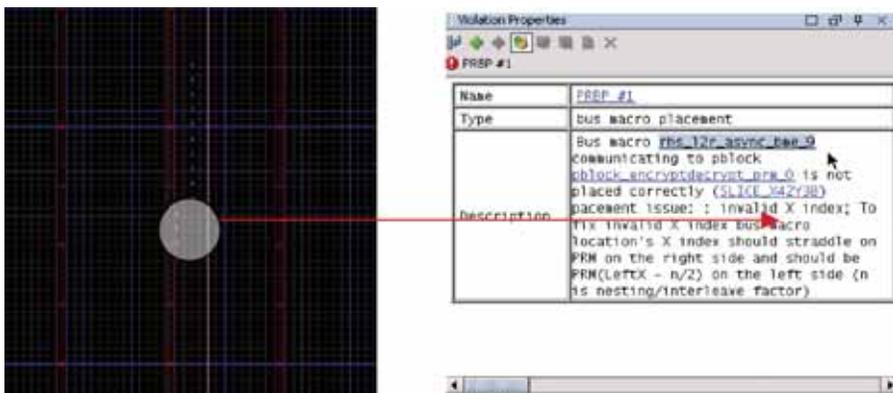

Figure 5 – The PRBP DRC verifies all rules that should be followed for bus macro placement.
1. Bus macro DRC. This provides verification for all design rules related to bus macro connectivity and placement. One example of a bus macro DRC is the PRBP check. This DRC checks for all rules that should be followed for bus macro placement. Figure 5 shows an example of a design that failed the PRBP DRC. In this case, the interleaved/nested macro should be placed at SLICE\_X41Y\*.